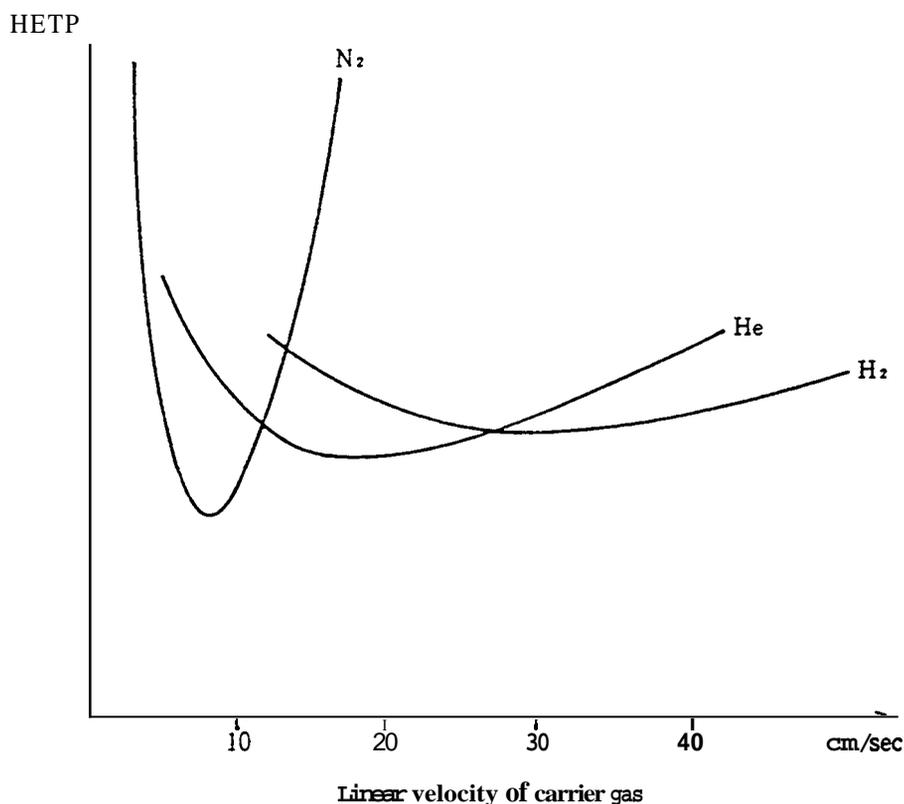

Fig. 7.2 Influence by the kinds of carrier gas (H-U curves)
- (1) Three different kinds of gases can be used as carrier gas; of these helium gas is generally used as the carrier gas for its high resolving power and less time needed for analysis. Control of carrier gas flow rate is usually done in constant flow rate control with a packed column or wide-bore capillary column. With capillary columns, a constant-pressure control method is usually employed, because the flow rate of fluid flowing in the capillary column can be maintained constant when adjusting the split ratio, as to be explained below.
- (2) The inlet side of the capillary column is inserted into the glass insert in the injection port, and carrier gas supplied is divided into two separate flowlines; the capillary column and the splitter, respectively. Assuming that the flow rates of carrier gas flowing in these two separate flowlines to be v_1 and v_2 , [mℓ/min], then the split ratio can be expressed as $v_1 : v_1 + v_2$.
- (3) Split ratio is selected usually in the range between 1/20 and 1/200. The reason for providing a splitter is that the absolute quantity of sample needs to be kept low to obtain the high separation performance that can be attained with the capillary column. Accordingly, when the split ratio is set at 1/50, 1/50 of the quantity of sample injected is introduced into the capillary column and the remaining sample is discharged to the outside by way of the splitter. (Although accurate control may be necessary if concentration of the sample is extremely low or high, split ratio is normally set at around 1/50 or at 1/100.)
- (4) To obtain separation on the capillary column in high efficiency, selection of proper flow rate of the carrier gas is essential. When helium is used as the carrier gas, around 40cm/sec is appropriate, for example, in terms of the linear velocity. The optimum flow rate of carrier gas is obtained on the H-U curve as to be explained later with reference to Fig. 7.2. Flow rate inside the capillary column is adjusted with the column inlet pressure. Two methods are available for measurement of flow rate; (1) direct measurement at the column outlet using a soap film flow meter, and (2) with the column connected with the detector, methane gas is injected and the carrier gas flow rate (linear velocity) is calculated from the retention time measured.
- (5) The outlet side of the capillary column is connected with the detector, and a gas called make-up gas is fed to the connection part, at a rate of 40 to 60mℓ/min in normal cases. The reasons for adding such a make-up gas are; (1) to obtain carrier gas flow rate necessary for maintaining the sensitivity of the detector (because of the low flow rate in the capillary column) and (2) to increase the gas flow rate for preventing expansion of peaks at the junction of the detection and the column.
(6) In the case of split sample injection, once the flow rate in the capillary column, split flow rate and the make-up gas flow rate have been decided, subsequent operations are carried out just in the same manner as those for ordinary analysis using packed columns. This method is most commonly used for analysis where concentrations of samples are relatively high. When concentration of sample is low, however, splitless sample injection, as to be described next, becomes necessary.